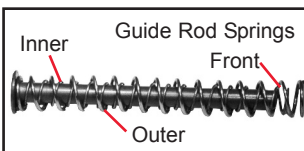

Figure 34
8. Insert the Outer Guide Rod Spring over the Inner Guide Rod Spring. See Figure 34.